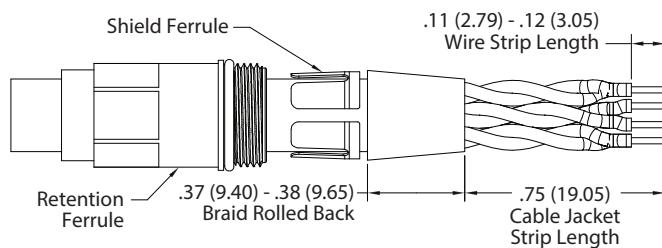

FIGURE 2
- Trim outer tape, cable splice, and filler if any as close to the folded back braid shield as possible. (Figure 2)